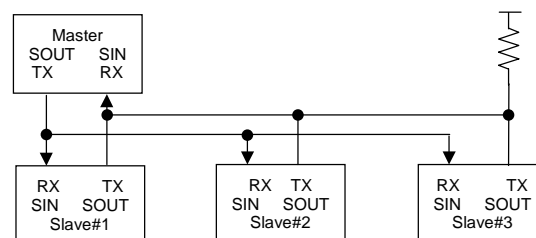

Figure 10.1.5 Example Configuration for Multi Controller System
An **example** of the multi controller system configuration is shown in Figure 10.1.5
**IMPORTANT:** The TMPR3916 does not have Open Drain capability on its output pins. A configuration as the one depicted in Figure 10.1.5 is possible only if external logic is added on the board.